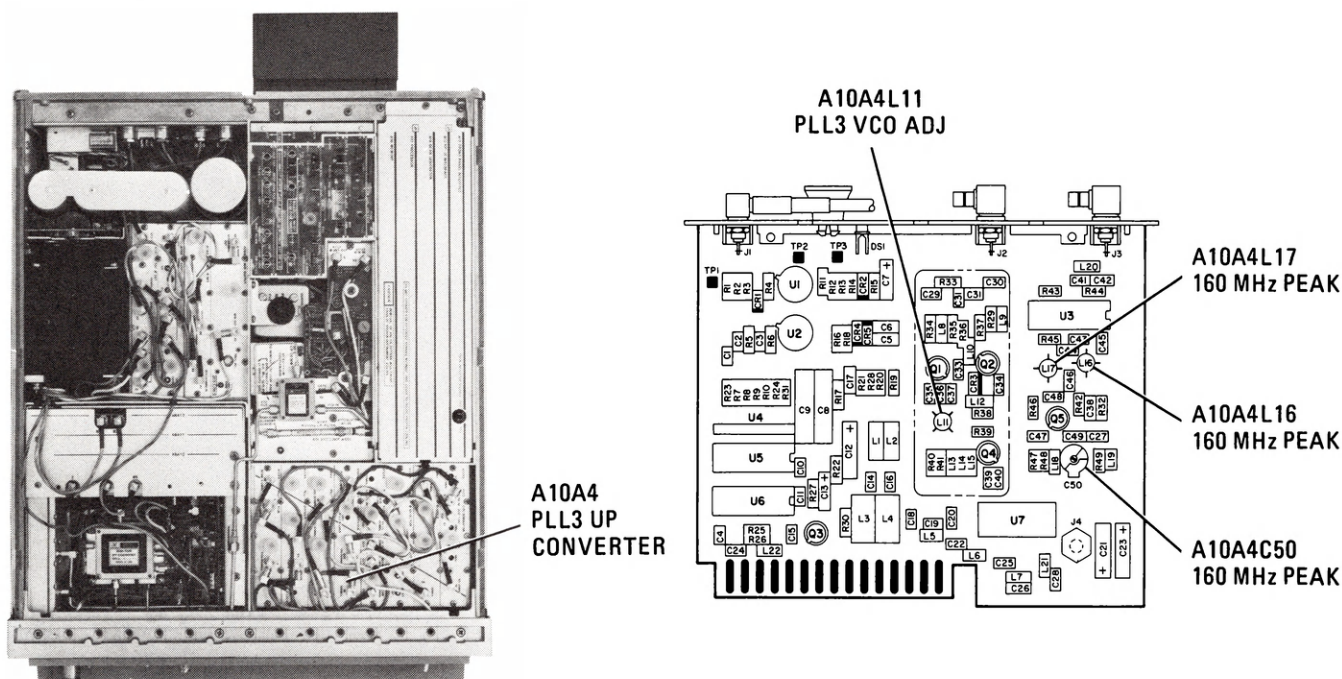

Figure 5-57. Location of PLL3 Adjustments
4. Adjust A10A4L16, A10A4L17, and A10A4C50 160 MHz PEAK for maximum signal level at 160 MHz. Iteration of L16 and L17 adjustment may be necessary. Refer to Figure 5-57 for location of adjustments.